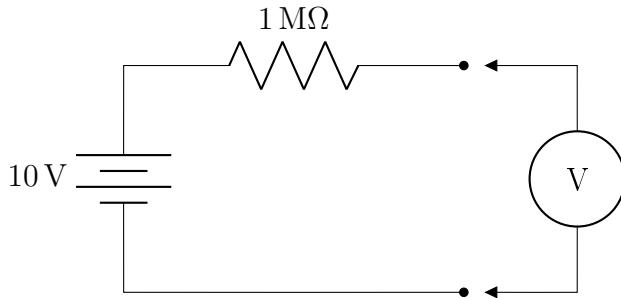

Figure 6: Circuit used to measure the internal resistance  $R_M$  of the voltmeter
To determine the internal resistance of the voltmeter, set up a circuit as shown in Figure 6.
4. Assemble the circuit in Figure 6.